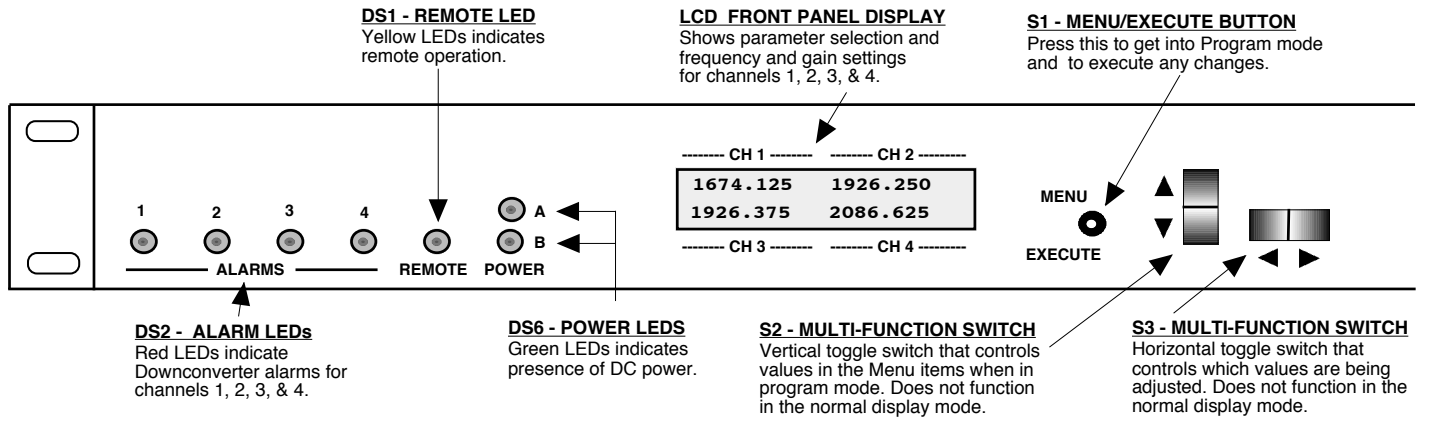

FIGURE 2.3 2415-x0925 Front Panel Controls and Indicators
7. Be sure DS6 (green, DC Power, PSA, PSB) is on and DS2 (red, Alarm) is off (Figure 2.3).
1. Menu/Execute - Any change to the programming of the unit must be initiated by pressing the Menu/Execute switch and completed by pressing the Menu/Execute switch (Figure 2.3).
2. Horizontal Switch - This switch is mounted so its movement is horizontal and moves the cursor left or right (Figure 2.3).
- a. During frequency, gain changes, the vertical movement will raise or lower the number in the direction of the arrows (Figure 2.3).
Alarm indications appear on the LEDs (See figure 2.3). An alarm condition will occur if any local oscillator phase lock loop (PLL) comes out of lock. The Remote LED will light when you select the Remote mode.